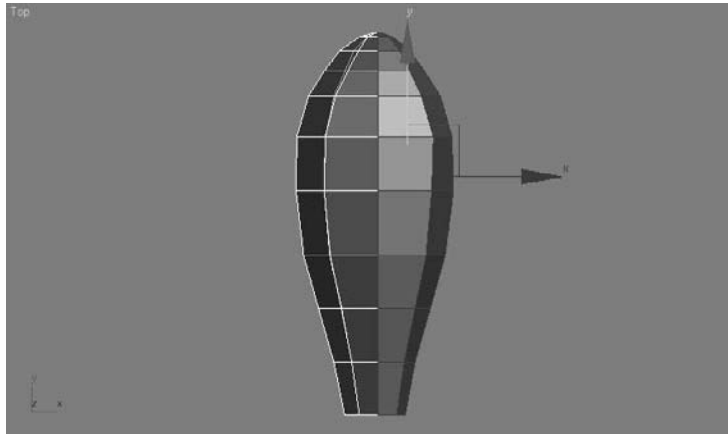

Figure 5.17
2. Enter Poly mode (press 4) with the rocket's body selected, select the polygons on one side of the rocket body's right side (as shown in Figure 5.17), and delete them.